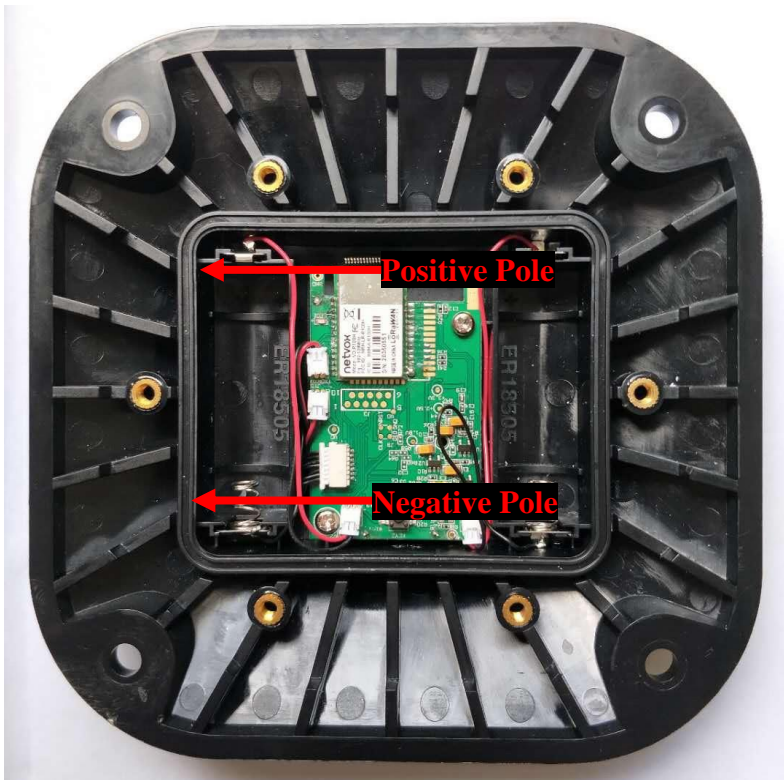

Figure 3
Step 3: Put the battery into the battery slot of the device. The side of the battery slot marked with  is the positive pole, and the side marked with  is the negative pole (with a spring). The side with  of the battery is the positive electrode, and the side with  is the negative electrode as Figure 3. Please note that the positive and negative poles of the battery should not be reversed.